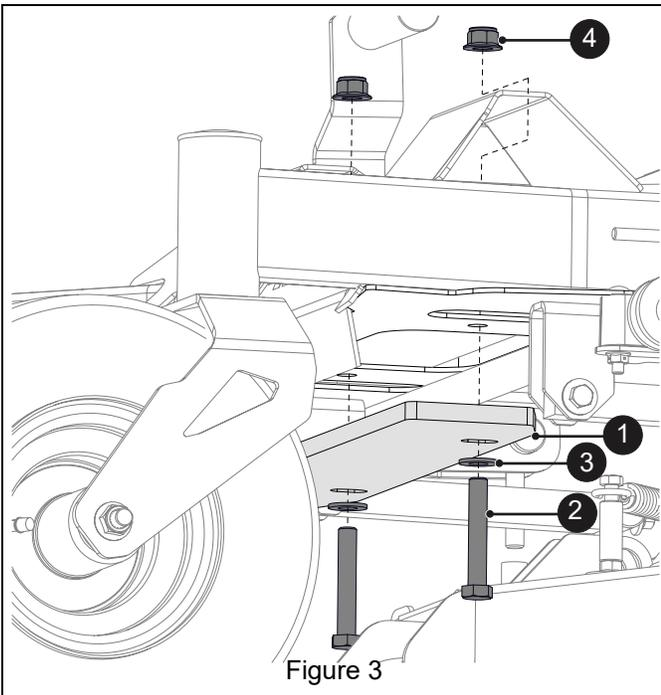

Figure 3
5. Position one counterweight plate under the frame crossmember. Plate is positioned with angled corners facing rearward. Secure weight plates with two 1/2" x 4" hex bolts (item 2), two flat steel washers (item 3) and two 1/2" nylon locking flange nuts (item 4). See Figure 3.